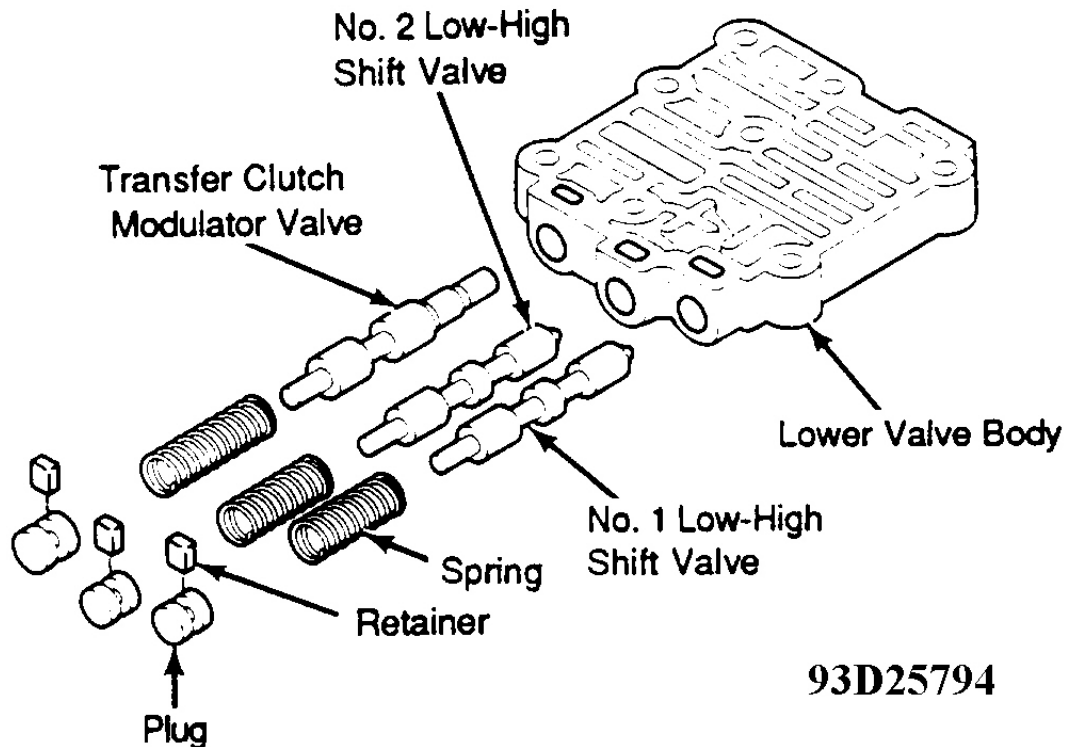

Fig. 60: Exploded View Of Transfer Lower Valve Body
2. Remove transfer valve body assembly, located under center differential control solenoids. Remove valve body gasket. Remove transfer case gaskets and valve body strainer. Remove 8 bolts. Remove transfer lower valve body. See **Fig. 60**. Remove 2 gaskets and plate from transfer upper valve body.